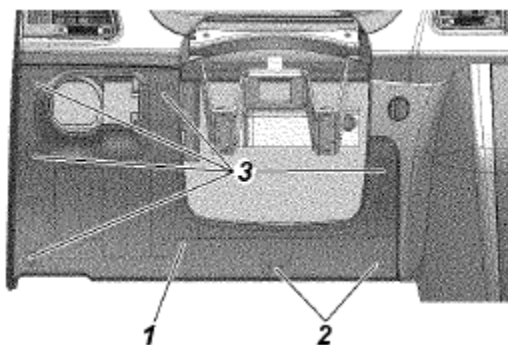

Fig. 9.26. The relay and fuse box cover installation:
- disengage two catch hooks 2 (Fig. 9.26) from the back of the unit cover located in the lower part;